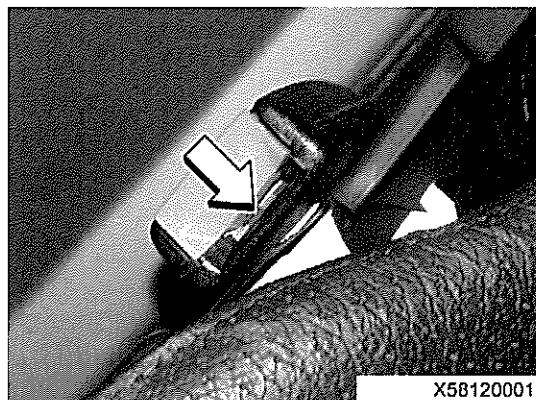

Fig 5 Fastening the seat belt
- 13 Refer to Fig 5. To fasten the seat belt, proceed as follows: